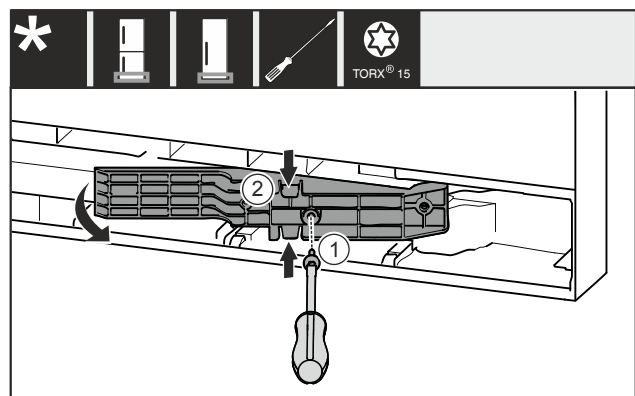

Fig. 22 \*
- ▶ Remove the screw Fig. 22 (1)\*
- ▶ Gently press the adapter piece Fig. 22 (2) together at the top and bottom and pull it out.\*